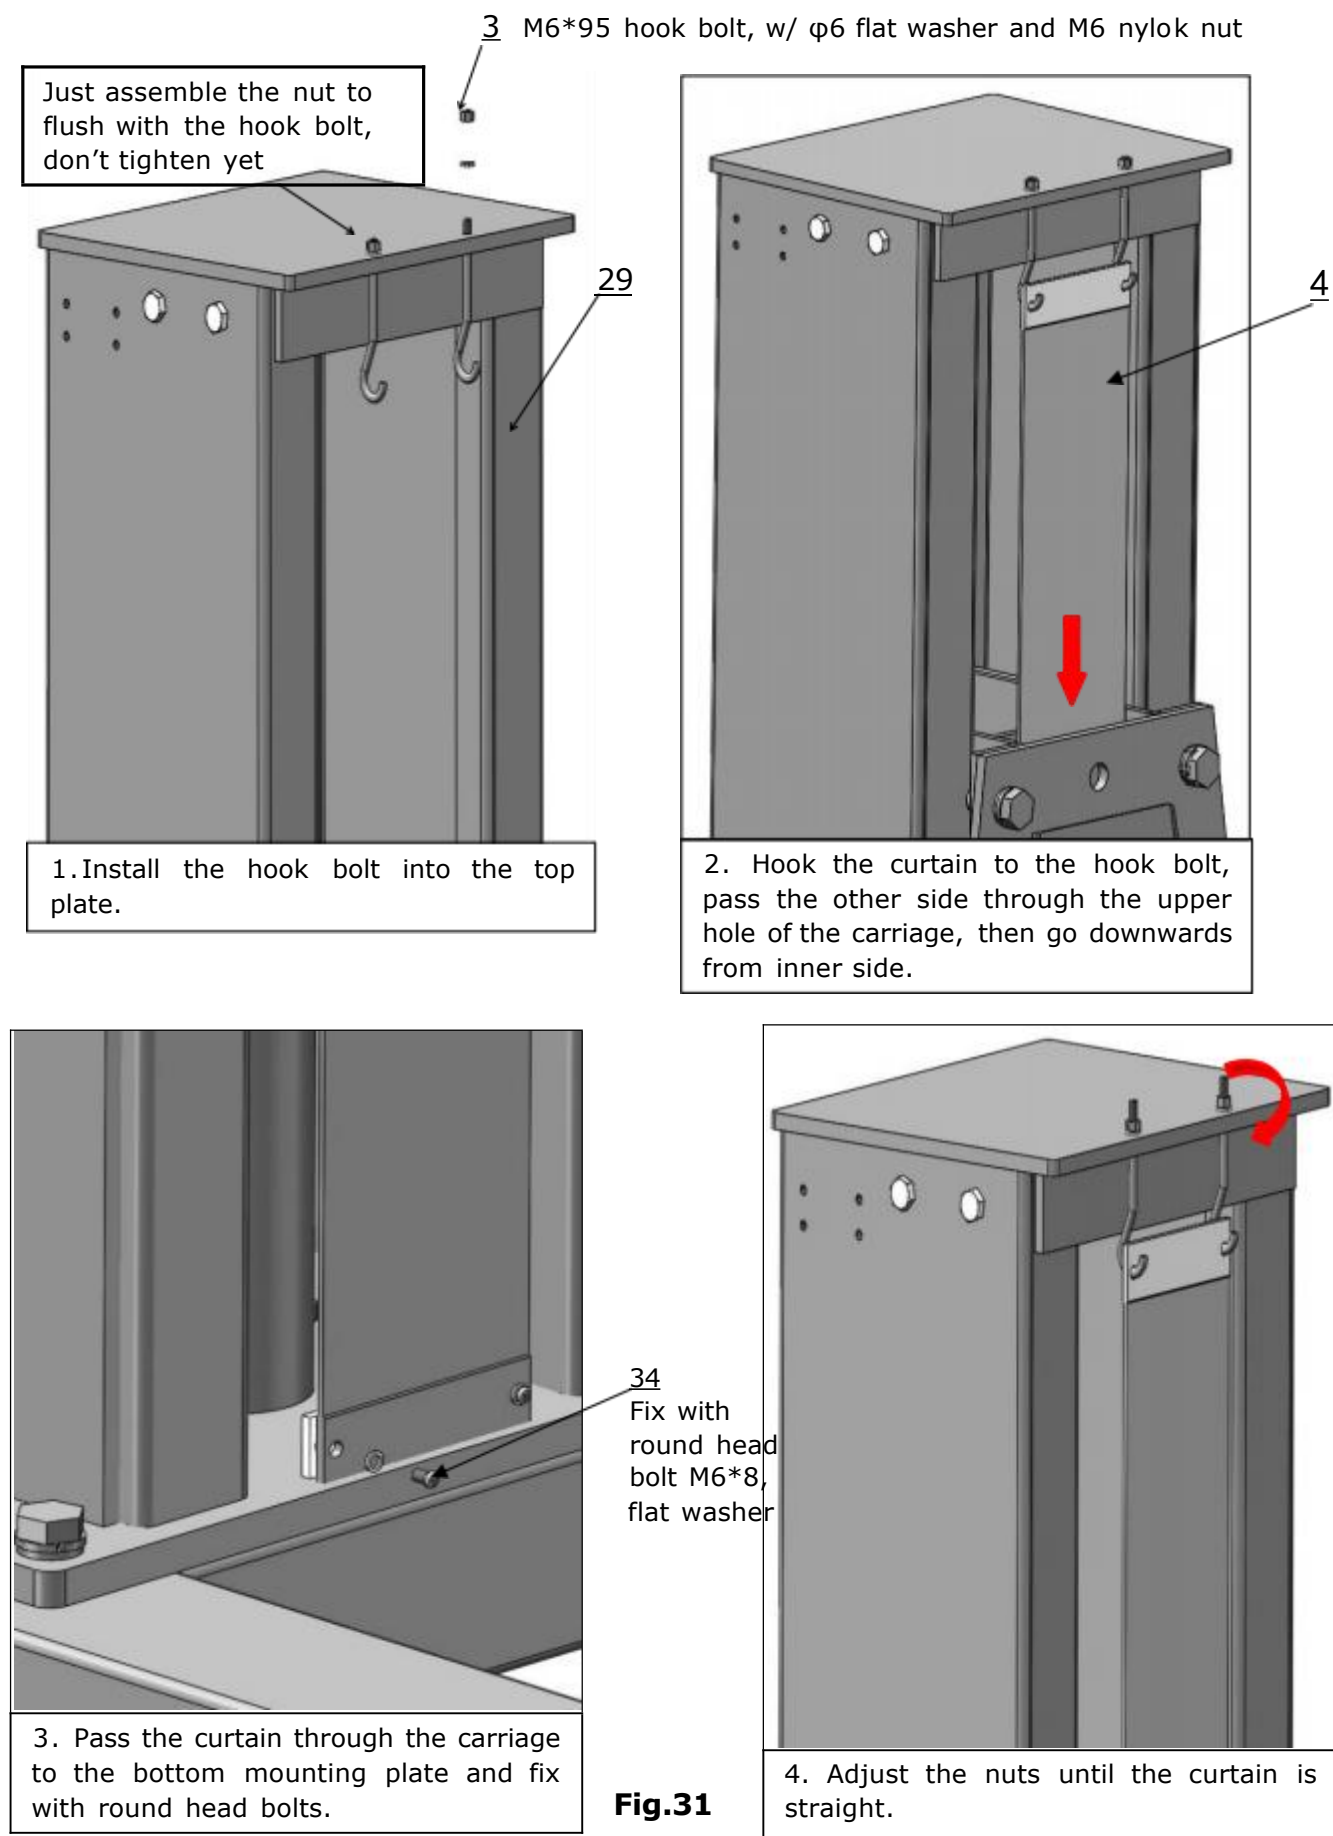

Fig.31
L. Install curtain (See Fig.31)